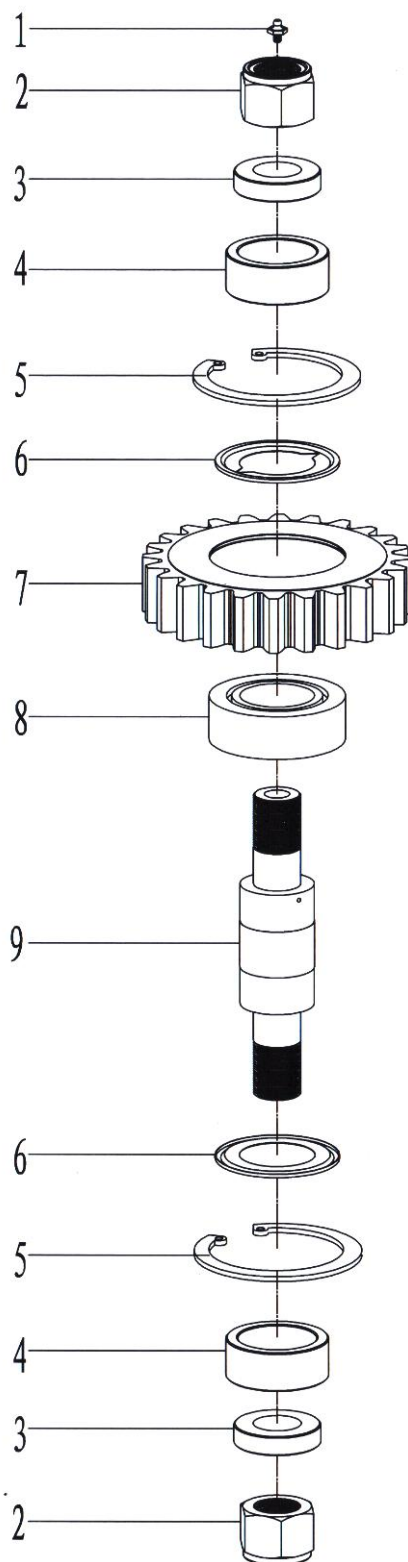
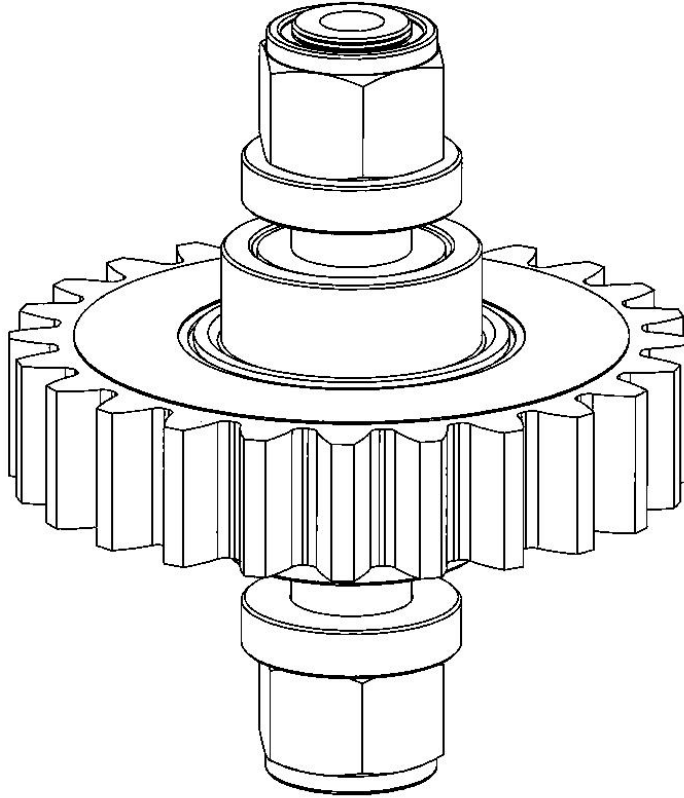

Fig. 6
Fig. 7
7.1.3 Small idler gear assembly(Fig.6, Fig.7, Table.5)